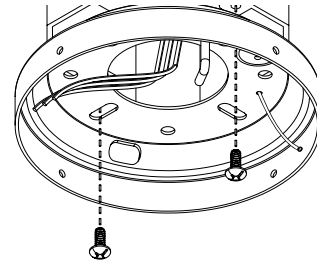

Figure 1.
- a. Pass the electrical wires from the ceiling through the ceiling mount center hole as shown in Figure 1.